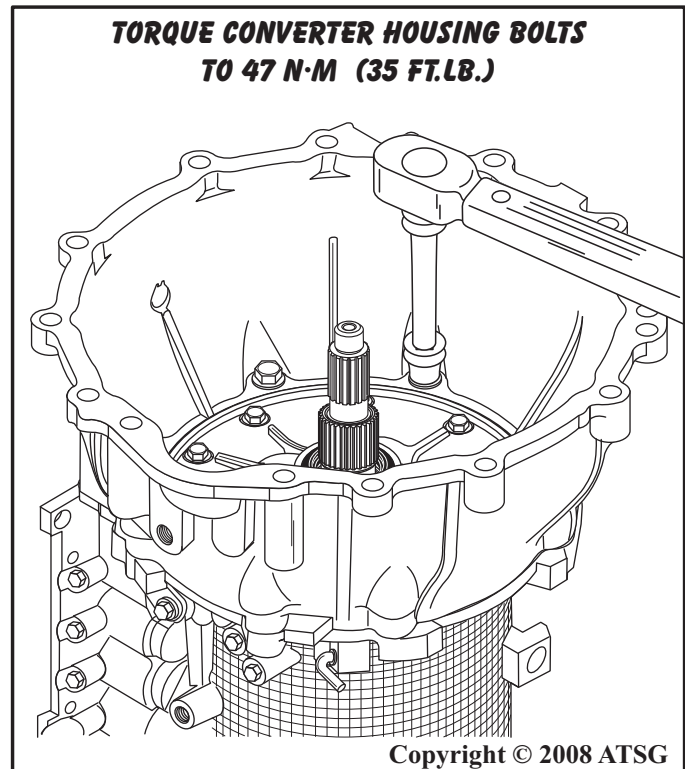

Figure 236
7. Torque the eight converter housing retaining bolts to 47 N•m (35 ft.lb.), as shown in Figure 236.